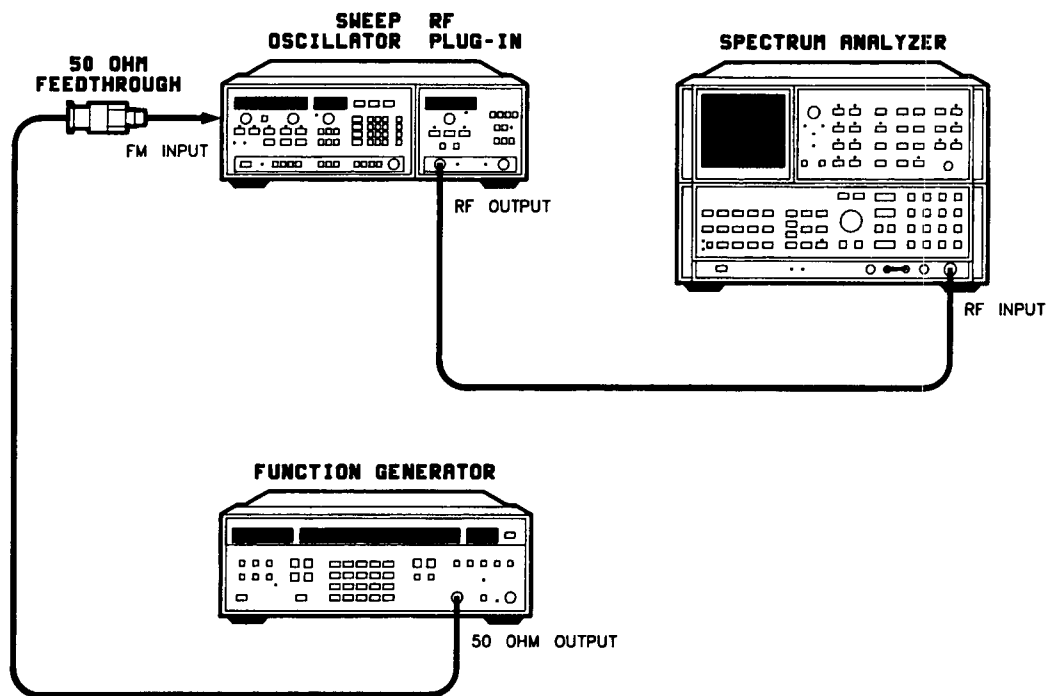

Figure 4-9. External Frequency Modulation Test Setup
2. Connect the equipment as shown in Figure 4-9, but do NOT connect the function generator to the FM input yet. Turn all instruments on and allow 1 hour warm up.
Connect the sine wave output as shown in Figure 4-9.
12. On the function generator, connect the output as shown in Figure 4-9.